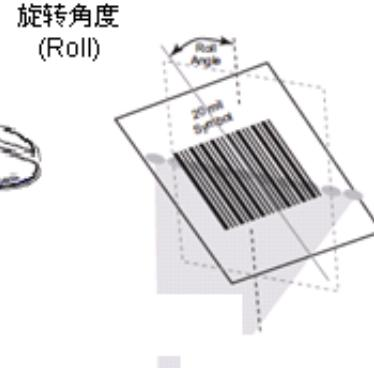

Fig. 1-14
- ✧ Roll: 360° , 0° Pitch and 0° Skew (Fig. 1-14)